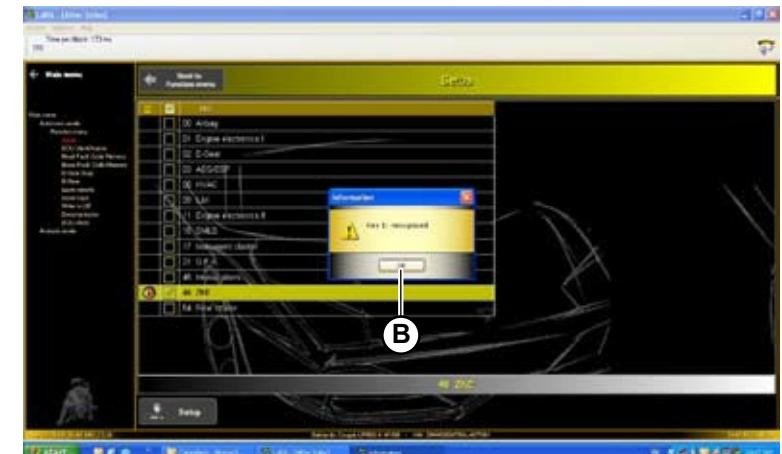

Fig.84
- Press OK (B-Fig.84) to confirm the code of key 1.